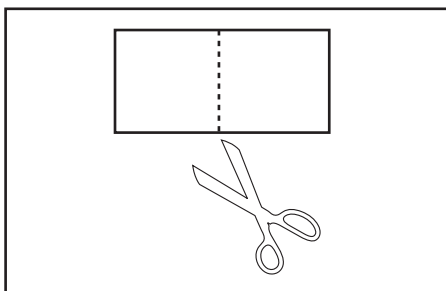

Fig. 4
f) Using scissors cut the other piece of protective tape in half. See Fig. 4